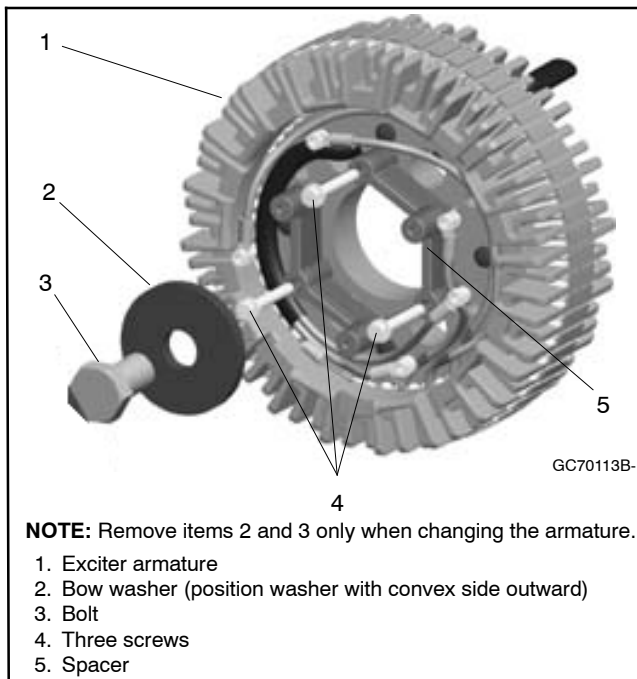

Figure 16-11 Exciter Armature
10. If the armature was changed, secure the new exciter armature by reusing the existing bolt and bow washer. See Figure 16-11. Torque to 194 Nm (143 ft. lbs.).